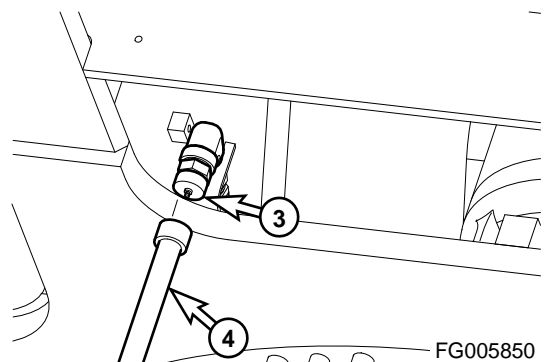

Figure 27
5. If the oil level exceeds the "H" mark on the dipstick, open cap (3, Figure 27) of drain valve and connect hose (4) to the valve. Drain the excessive oil into a suitable container.